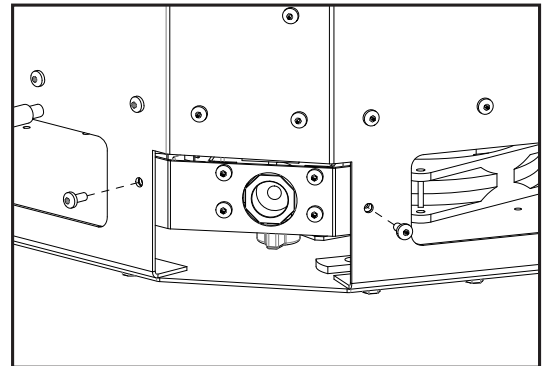
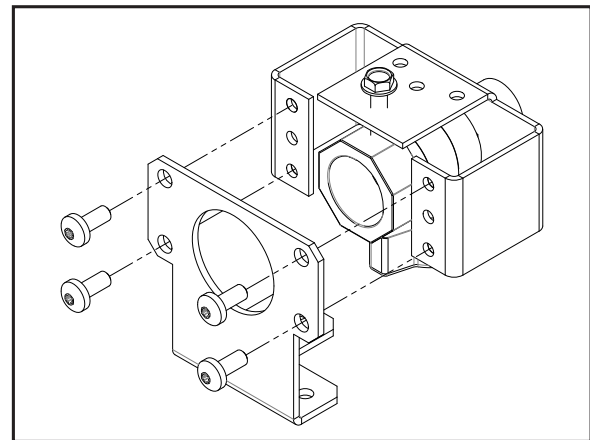

Figure 82: Gas Plate Disconnection
Figure 84: Gas Adapter Connection
1. Disconnect the two (2) T20 screws securing the ball valve plate (see Figure 82).
2. Disconnect the four (4) T20 screws securing the ball valve.
3. Loosen off ball valve jam screw and reattach ball valve cradle onto the relocation plate (included in the manual bag, refer to Figure 84 for proper geometry and orientation). Re-tighten jam screw and ensure ball valve is secure.